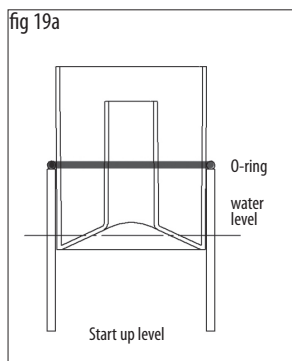

fig 19b
- For aquariums with heavy stocking or for dark foam/skimate, lift the collection cup and lower the o-ring gradually as shown in figure 19b
Attention: It is advisable to adjust the collection cup by small movements, one at a time (2/4mm – 1/8/1/4 in). For every adjustment you need a few hours before verifying if the foam suits the needs. Repeat this operation until you reach the correct setting without going beyond the min and max level shown in fig. 19b and fig.19c
- Excess foam production: adjust by lifting the collection cup and lowering the o-ring gradually as shown in fig. 19b. Check airflow and if necessary, reduce.